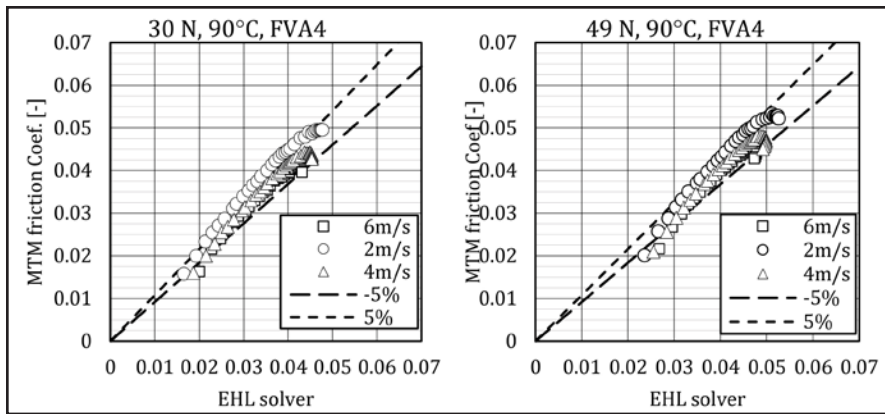

Figure 6 Comparison of the friction coef. measured in the MTM and the calculated values obtained using the Thermal-EHL solver.
- Using a larger dataset of 90 test runs with FVA 4, and three repeats each at 5 different pressures, and temperatures from which conditions and experiments used in the methodology are excluded (speeds < 1m/s). For those experiments a simulation was set up in the thermo-EHL solver for calculating the friction force. The results are within a good accuracy $\pm 5\%$ (Fig. 6).